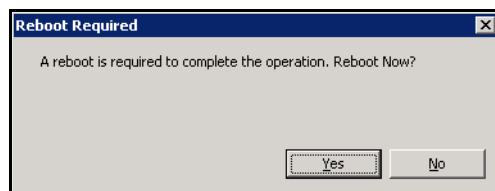

Figure 2-3: Reboot Required Message
- a. Select the default string in the **Device Hardware Id** field and click the **Remove** button to delete the string. The Reboot Required message in Figure 2-3 on page 2-9 appears.